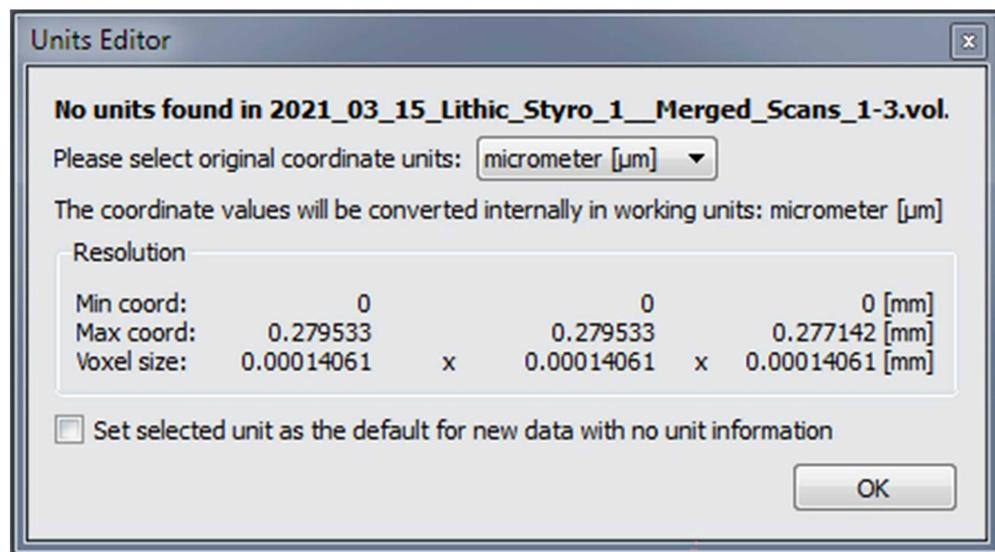

Fig. 10: 'Units Editor window'.
- 20.10 Indicate unit in 'Units Editor' window (Fig. 10) according to indicated voxel size unit in pcr CT-scan metadata file ('VoxelSizeRec=NUMBER', yellow arrow in Fig. 9) and press 'Okay'.